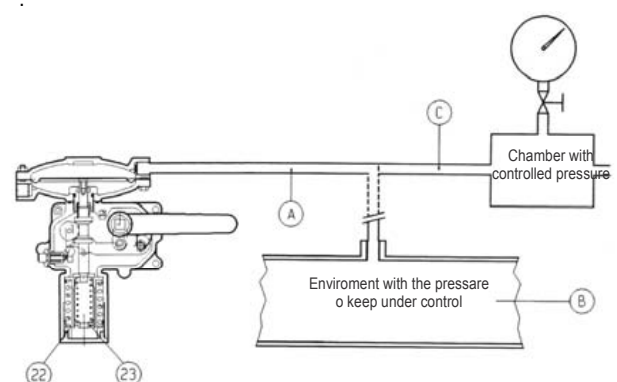

fig. 19
- B) On devices without the "push" valve (fig. 19) we recommend connecting the control head separately to a controlled auxiliary pressure and repeating the operations described above
- B) On devices without the "push" valve (fig. 19) we recommend connecting the control head eparately to a controlled auxiliary pressure and repeating the operations described above.